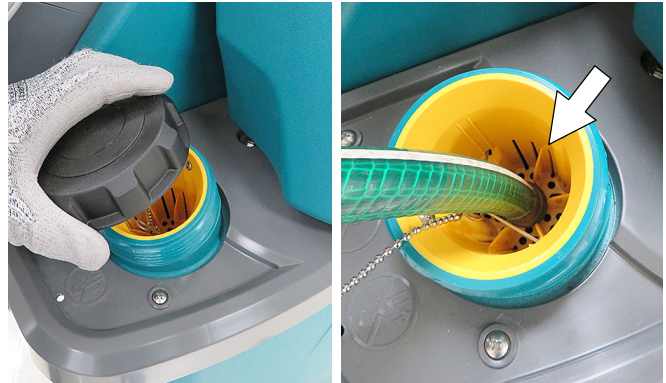

FIG. 21
1. Remove the cap from the solution tank. Insert the fill hose into the yellow strainer. The ribs at bottom of strainer will hold hose in place while filling (Figure 21).